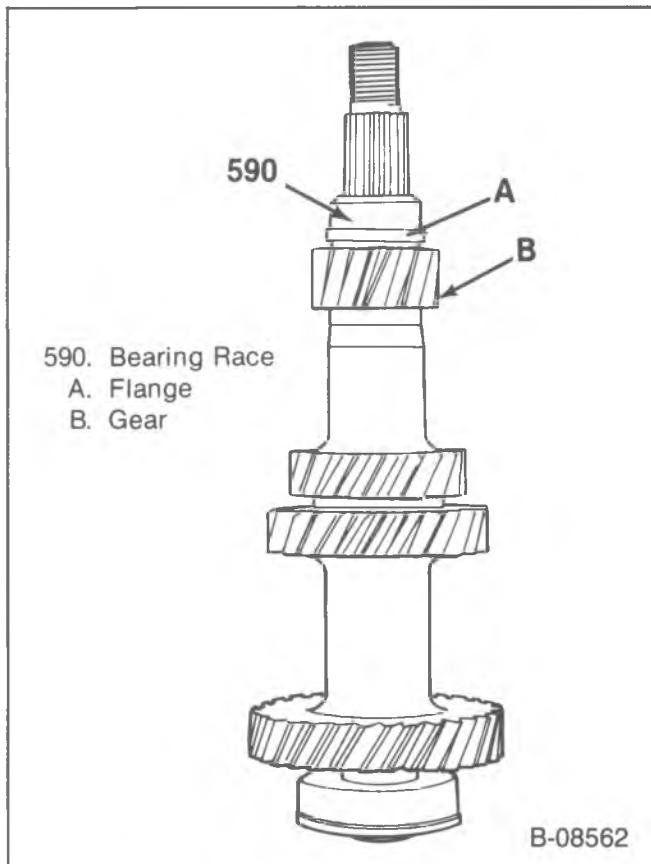

Figure 97—Countergear Inner Race Installed
- The flange must be to the gears, (figure 97).